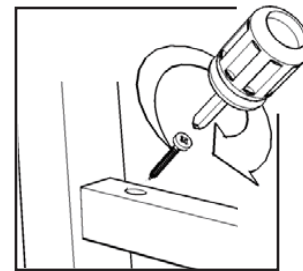

Figure 2
Attach Stretcher (E) to Leg (B) and Stretcher (F) to Leg (C) with Wood Screws. (See Figure 2)